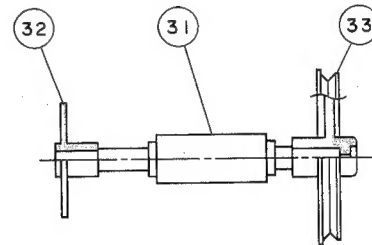

Figure 16
2. Worm gear (31) Assy
As described in Fig. 16 pressing insert the Shifter (32) and pulley to the long and short bars of Worm Gear (31) respectively. When the Shifter (32) is assembled, make sure that the left end of the bar is on the same level as the face of the shorter boss of shifter. When the Pulley (33) is assembled, press the pulley as long as it goes.